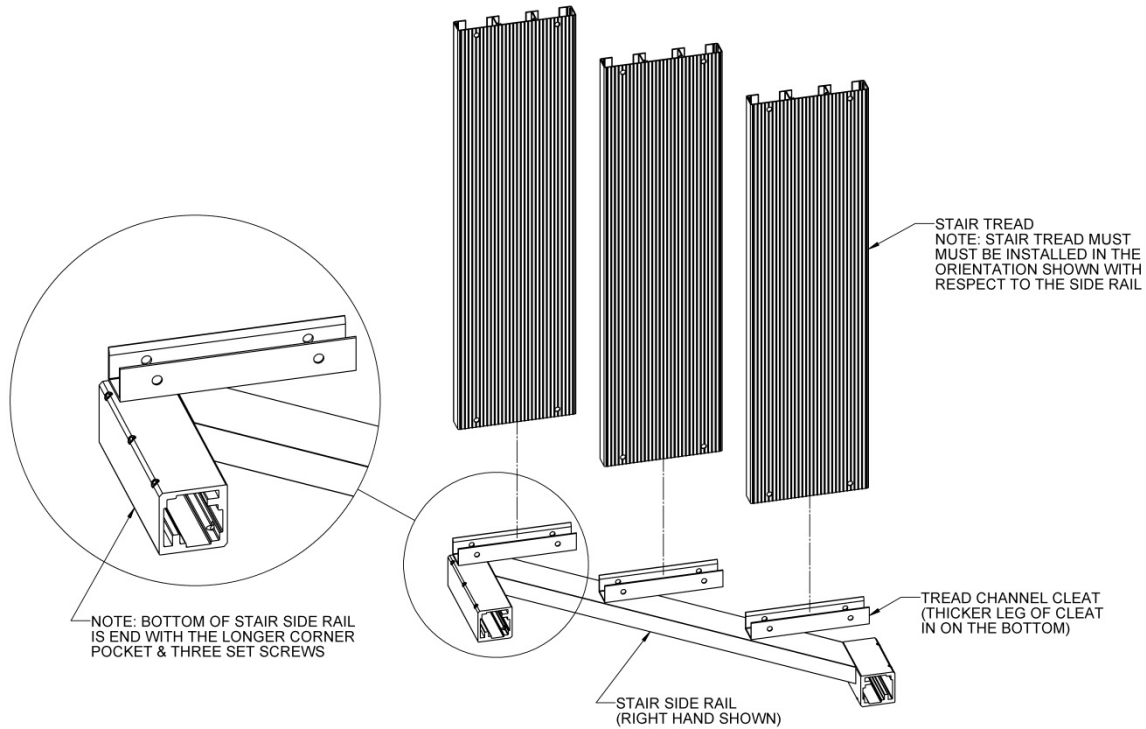

FIG. 1
- 2.1. Lay the right hand stair side rails flat with tread channel cleats pointing up and insert the treads into the channel cleats. Place on cardboard or other suitable surface to avoid scratching the side rail. Make sure the tread is positioned with the traction ridges oriented upward. Use a rubber mallet if needed to tap the tread into the tread channel cleat until the holes in the cleat line up with the holes in the stair tread (FIG.1).